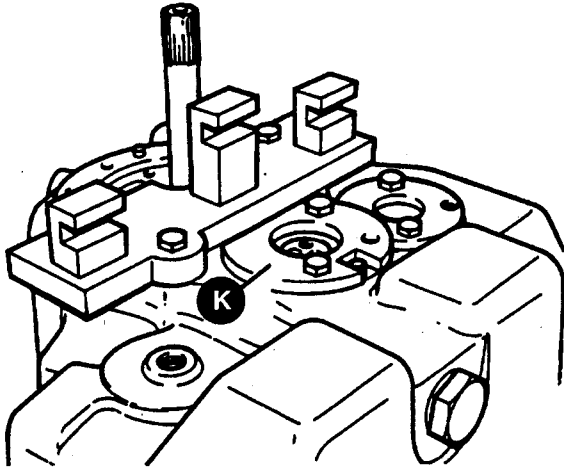

Figure 27.
25. Install mainshaft end float tool K (P/N 1001836) over the mainshaft end bearing and spacer, as shown in Figure 27. Tighten securing bolts to a torque of 42 lb-ft. (56 Nm.)